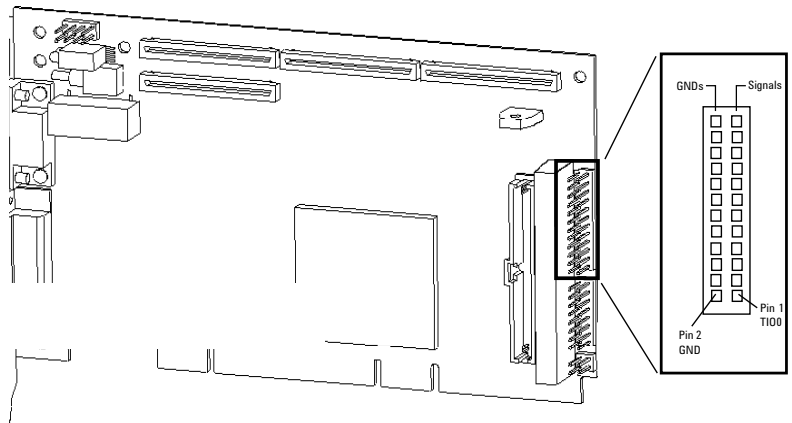

Figure 7. E2920A Trigger Output Location
3. Connect the trigger input of your DSO to the **TIO0** (Trigger I/O 0) signal on the Agilent PCI Exerciser/ Analyzer. Refer to figure 7 for the location of this signal. Note that ground signals are on all 12 pins of the trigger I/O header to the left of each signal.